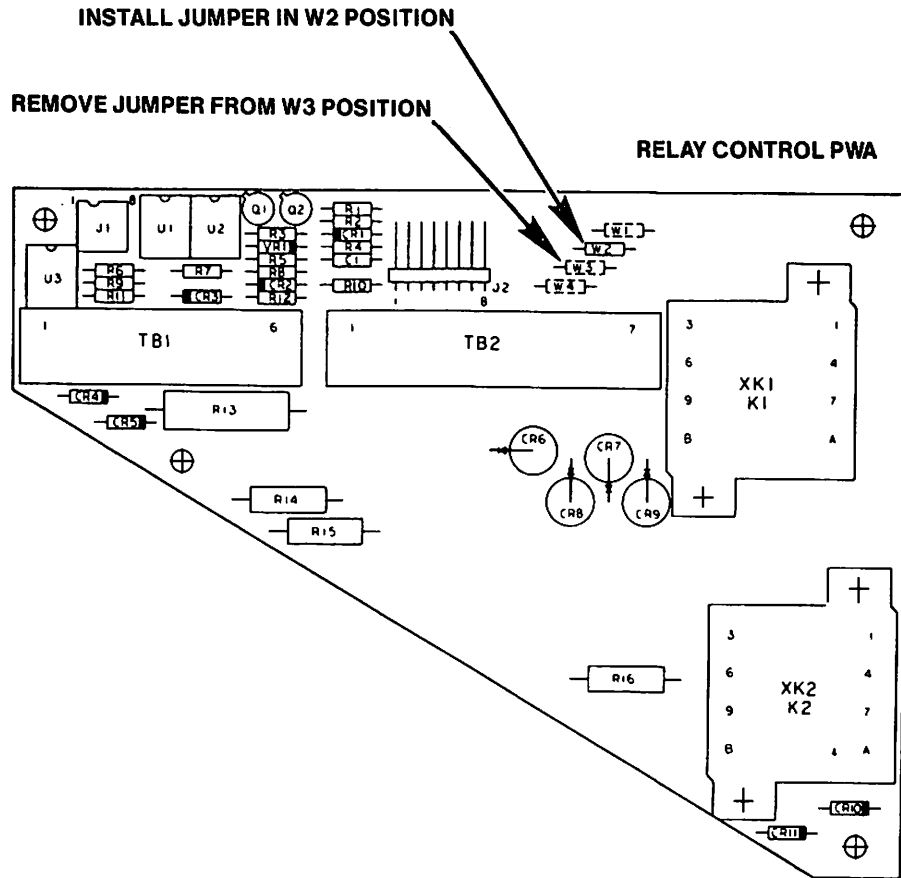

Figure 2. Relay Control PWA Layout Showing Location of Jumpers to Be Changed
- a. Identify orange wire connected between relay control (RC) printed wiring assembly (PWA) TB2-1 and pin 2 of power supply connector PS1P1.
3. Refer to figure 2 and proceed as follows: